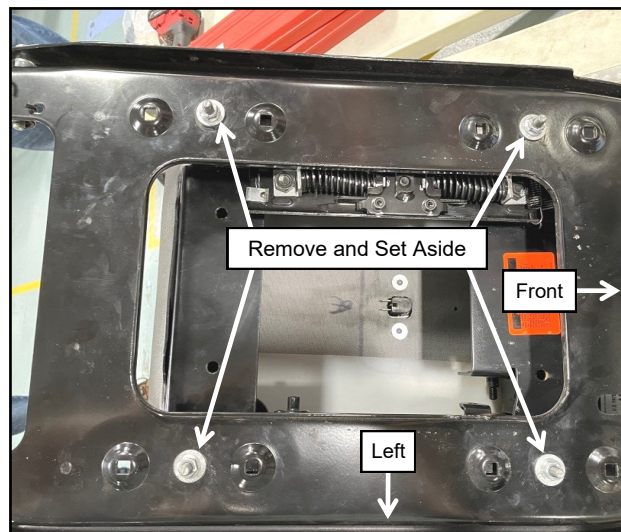

Fig. 1.24 (Remove Seat Frame)
- 1.24** Remove and set aside the (4) nuts and washers holding the seat frame to the seat adjuster rails. Next, remove frame from the seat. See Figure 1.24.
- 1.26** Place supplied seat pan assembly onto seat. Next, re-install seat frame onto the seat pan. Loosely install OEM washers and nuts back on. Fully tighten left side hardware first followed by the right side. See Figures 1.24 and 1.26.